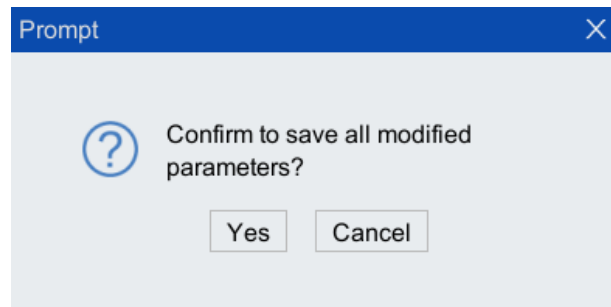

Figure 4-7 Confirm to save the modification prompt box
Step12. Click <Yes> in the prompt dialog box that pops up. As shown in Figure 4-7.